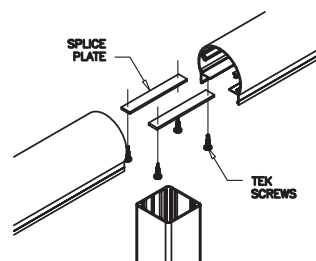

fig. 5
**3b. Mitered joints (fig.5):** cut each top rail miter at 1/2 the total corner angle (for a 90 degree corner you would cut the top rail at 45 degrees). Add two splice plates to connect and strengthen the miter joint; each splice plate is secured with two #10 x 3/4" TEK. Then secure the top rail to the posts using more #10 stainless steel TEK screws.